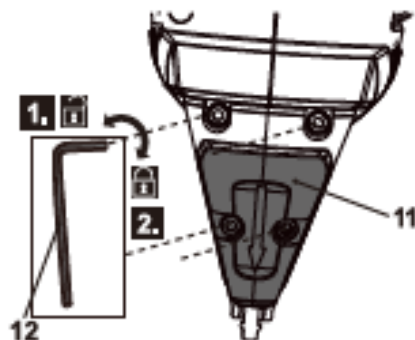

Fig. 13
5. If the problem can't be solved, loosen the four bolts on the face plate (11) anticlockwise with the supplied hex key (12), but don't remove them (Fig. 13, step 1).
7. Secure the face plate (11) by tightening the four bolts clockwise with supplied hex key (12) (Fig. 13, step 2).